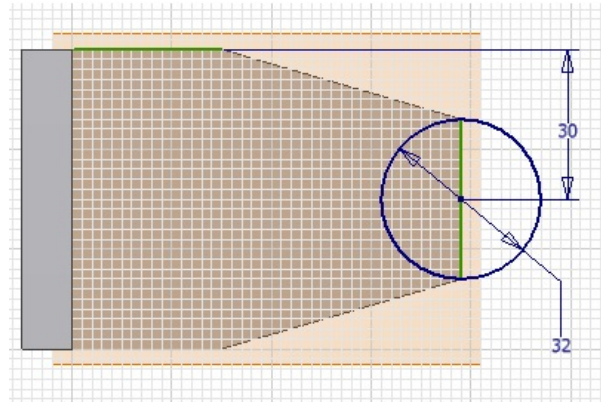

Figure 5-101 *Sketch for the cylindrical feature*
4. Choose the **Start 2D Sketch** tool from the **Sketch** panel of the **3D Model** tab and select the work plane as the plane for drawing the sketch of the cylindrical feature. Next, reorient the model, if required, using the ViewCube, see Figure 5-101. Increase the drawing display area using the scroll wheel of the mouse, if required.
5. Draw a circle and then add the required constraints and dimensions to it, see Figure 5-101.